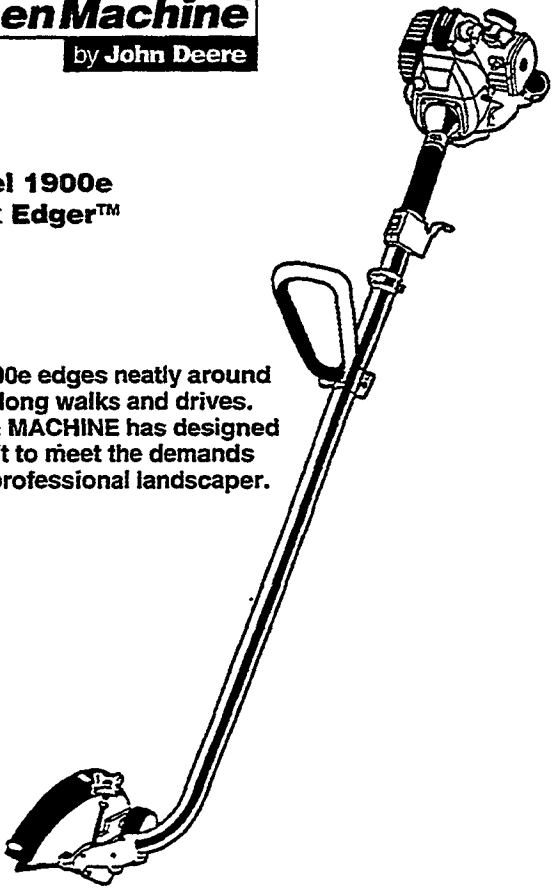
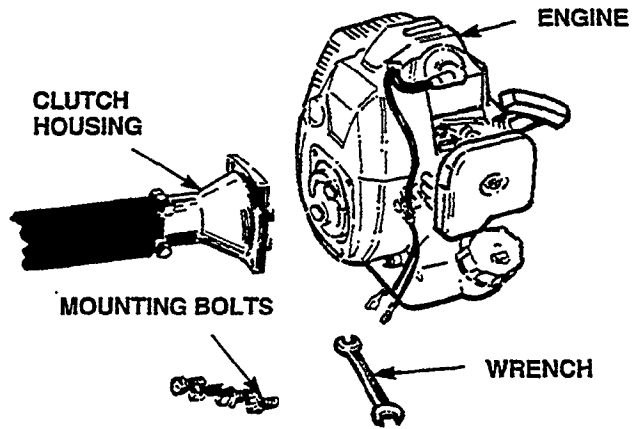

Figure 1
Figure 2
- Using the four (4) bolts supplied, mount the engine to the clutch housing as shown (Figure 1).
- With wrench supplied, tighten all four (4) bolts evenly and securely.
2. INSTALLING MID-HANDLE (Figure 2)
- Install bolt, washer, and wing knob (Figure 2).